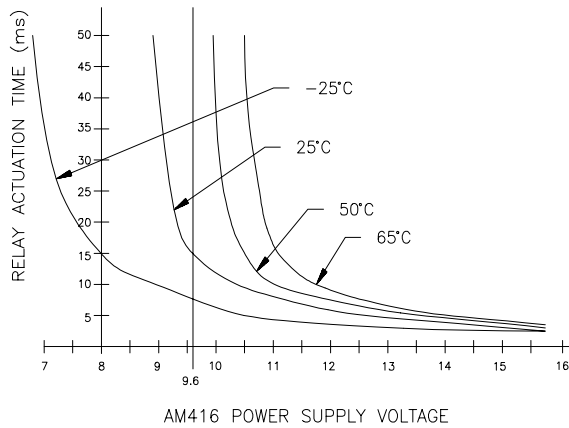

FIGURE 4. Actuation Time of Relays vs. Temperature (°C) and Battery Voltage.
- See Figure 4 for implications of low power to relay actuation
Operate time 8 to 15 ms approx. (See Figure 4)
Low power and high ambient temperatures may affect the actuation time of the multiplexer relays (Figure 4). If the relay is not closed when a measurement is started, the result will be an inaccurate or overranged value.